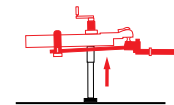

Figure 33
4. Extend your trailer jack to lift the weight off the hitch spring bars. (Figure 33)